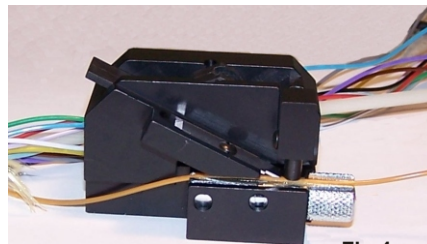

Fig.4
3. Carefully lay the buffer tube in the tube insert. (Fig.4)